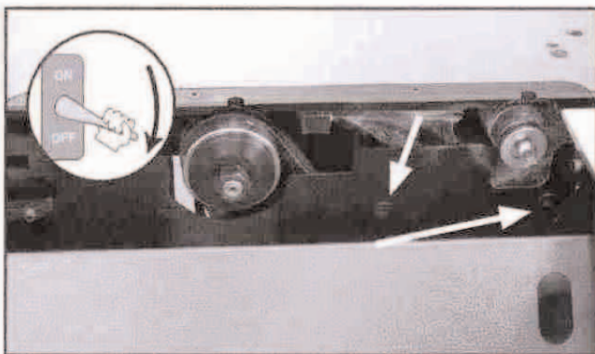

Figure 77. Lower blade guard removal.
4. Remove the screws that secure the lower blade guard (Figure 77) and set the guard in the bottom of the cabinet.